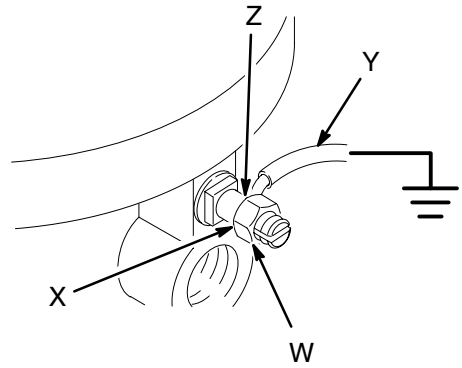

Fig. 1
1. *Pump*: use the ground wire and clamp. See Fig. 1. Loosen the grounding lug locknut (W) and washer (X). Insert one end of a 12 ga (1.5 mm2) minimum ground wire (Y) into the slot in lug (Z) and tighten the locknut securely. Connect the other end of the wire to a true earth ground. Order Part No. 237569 Ground Wire and Clamp.
4. *Surge tank*: use a ground wire and clamp. See Fig. 1.